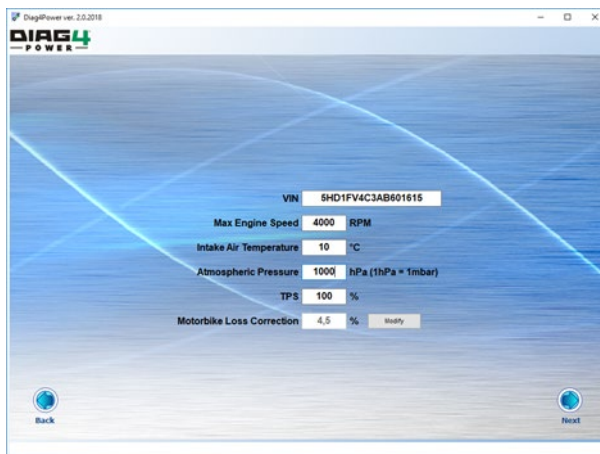

Fig. 12 – Set default measurement conditions
Note: If the **DIAG4BIKE** is not installed, the icon is grey. The *Power test with Diag4Bike* is not available (see Fig. 12).
- Set the default measurement conditions (see Fig. 12) and the correction of performance loss (see chap 7.2):
- Click on the „NEXT" button to start the measurement (see Fig. 12)
- (1) Appropriate gear must be chosen before the actual measurement through an acceleration test. Start the test by slow acceleration in the top gear.
- (2) The procedure as described above deals with the measurement of the external power parameters of the engine (measured at 100% throttle opening, TPS = 100 %). The measurement of the power characteristics for a different throttle opening can be achieved by using the **Throttle Control Limiter** (see Fig. 19.) This way, parametric performance characteristics can be obtained. At the end of the acceleration the TPS value is saved by **DIAG4BIKE**; otherwise enter the value of TPS to the program parameters (Fig. 12).